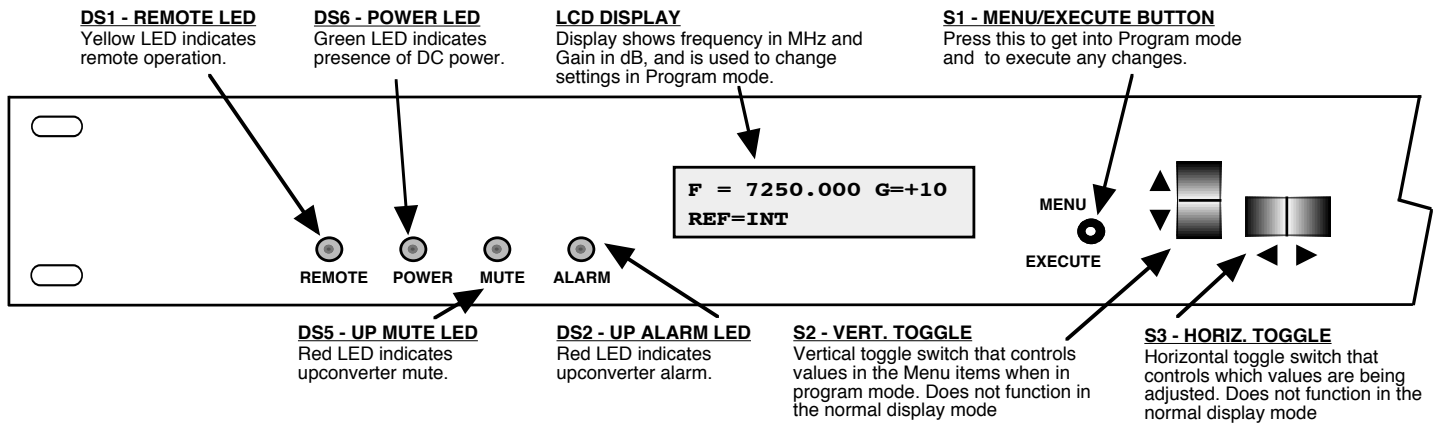

FIGURE 2.3 2015-7075 Front Panel Controls and Indicators
2.3 Front Panel Controls and Indicators - Figure 2.3 shows the front panel controls and indicators.
7. Be sure DS6 (green, DC Power) is on and DS2 (red, Alarm) is off (Figure 2.3).